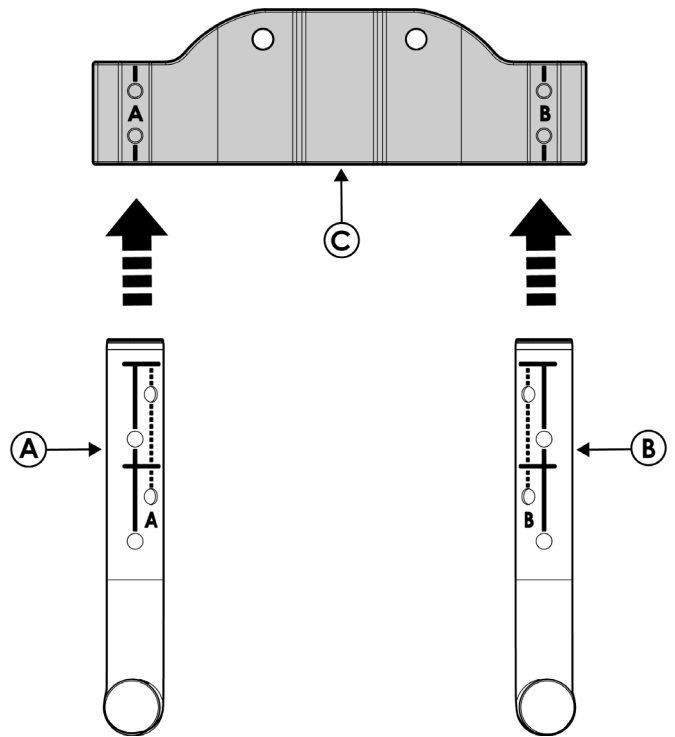

FIGURE 3.1
3.1 Lay main support on flat surface so markings can be seen as in *FIGURE 3.1*. Insert **A** into **C** as shown.